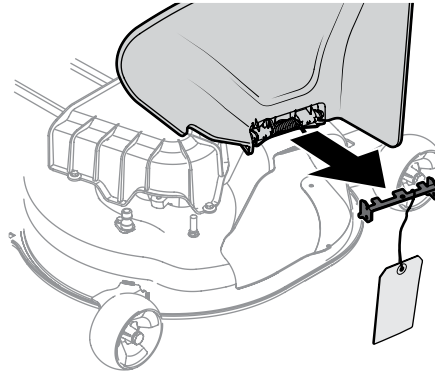

Figure 2-16
7. Holding the chute deflector fully upward, remove the shipping brace. Lower the chute deflector and discard the shipping brace. See Figure 2-16.